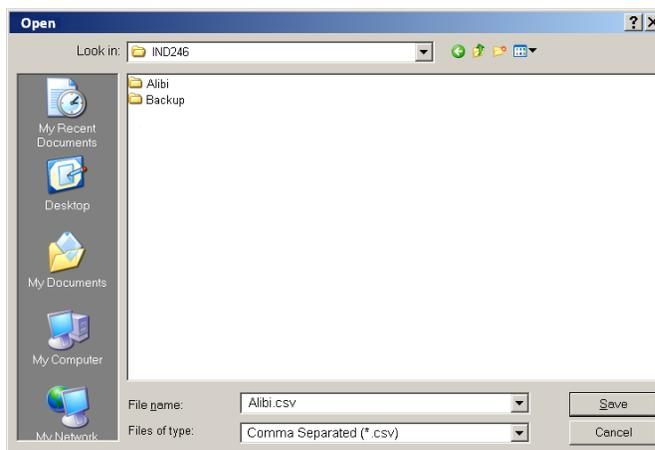

Figure 3-9: Windows Explorer "Open" Dialog
5. Click cancel to abort this process, or click **Open** to keep the information entered and return to the **Write to Terminal** dialog. See Figure 3-9.